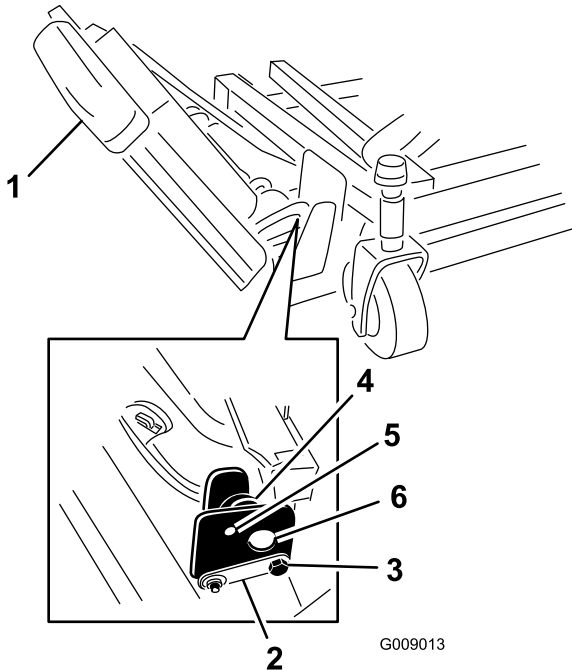

Figure 3
1. Remove the nuts securing the front and rear stop bolts to the right winglet deck mounts (Figure 3).